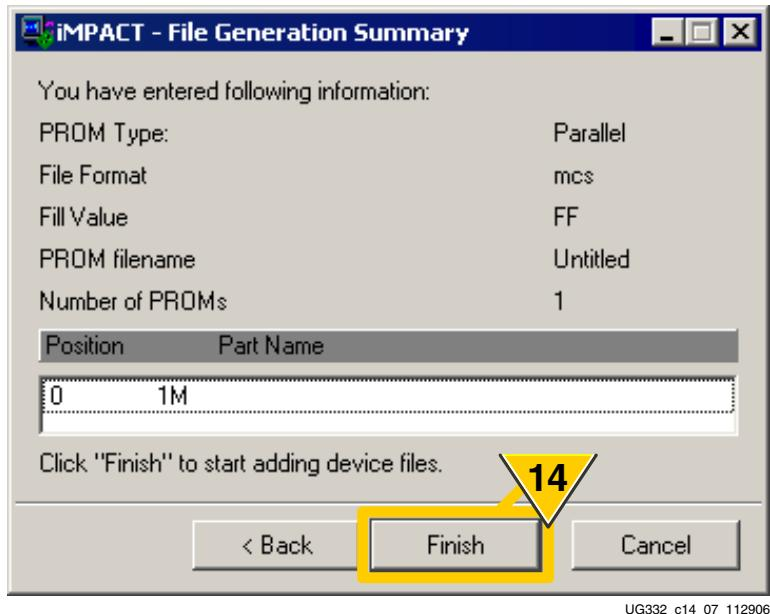

Figure 14-6: Confirm the PROM Settings
14. The iMPACT software summarizes the current settings, as shown in Figure 14-6. Click Finish to continue.